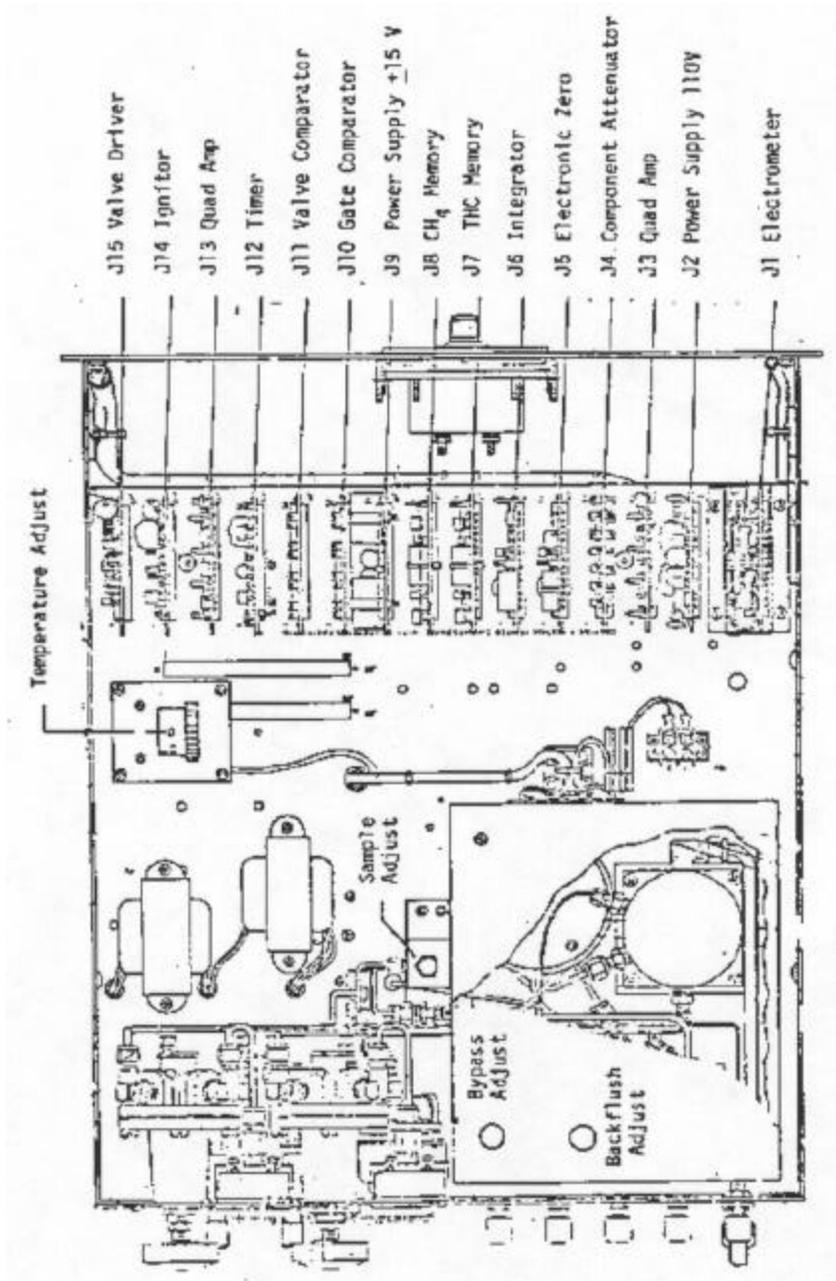

Figure J.1.1.1
3. Check that oven temperature is set to 80EC (see Figure J.1.1.1).